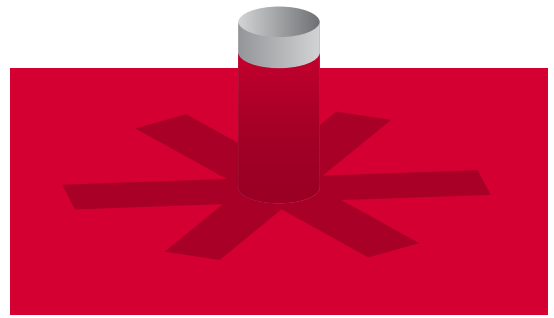

Figure 4: Wrap the slit cut piece around the pipe and 'fingers' on the VaporFlex®.
5. Wrap the VaporFlex® Standard around the pipe, taping the collar in place and securing the fingers to the bottom layer using the VaporFlex® Standard Tape. *(Fig. 4 and 5)*